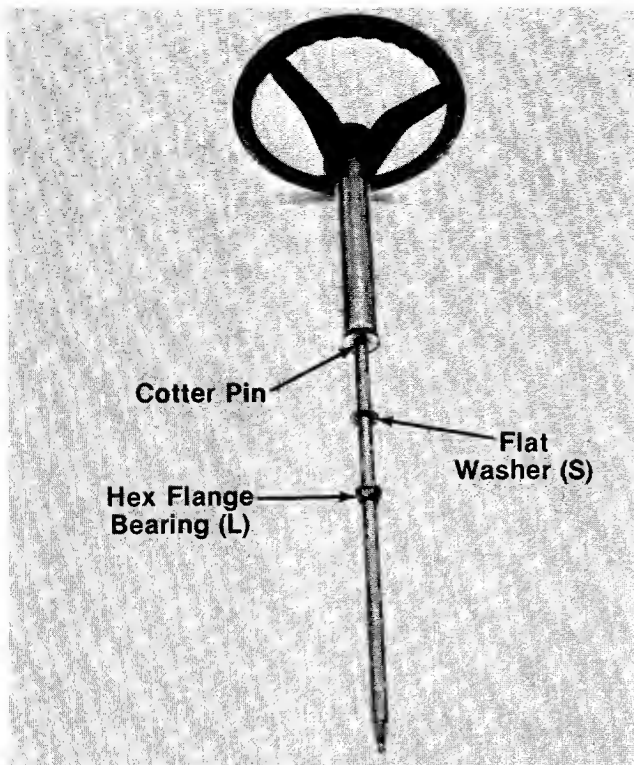

FIGURE 7.—Style A Only
7. **Style A only**—Slip flat washer (S) ($1\frac{1}{4}$ " diameter) on the **steering shaft** immediately below the cotter pin. Place one plastic **hex flange bearing (L)**, flat side up, below the washer. See figure 7.